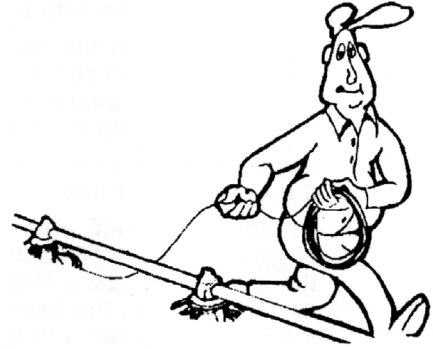

Figure 46. Unrolling the Cable
1. Unroll the bulk anti-roost cable. Note: If the cable is unrolled as shown in **Figure 46**, taking 5 loops of the coil with one hand, then changing hands to remove 5 loops as it is unrolled, it will lie flat during installation.